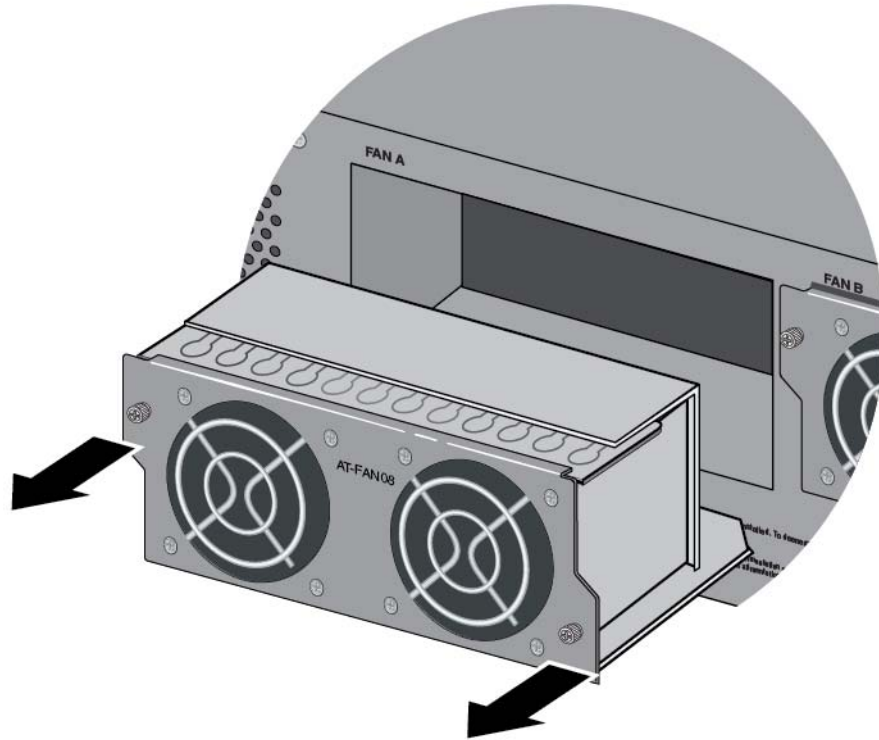

Figure 123. Disconnecting the FAN08 Module from the Chassis
2. Carefully pull on the screws on the faceplate to disconnect the line card from the connector on the backplane in the chassis. Refer to Figure 123 on page 168.